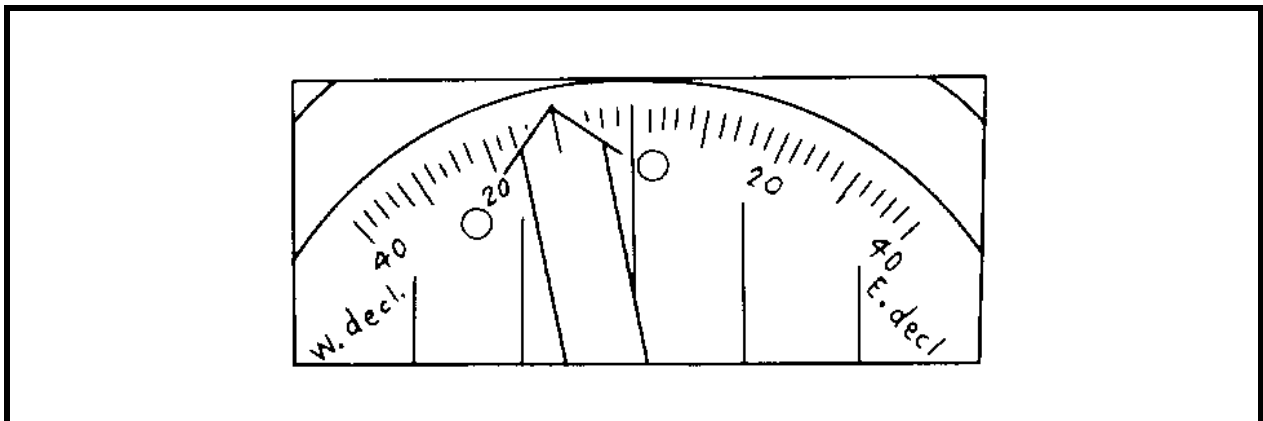
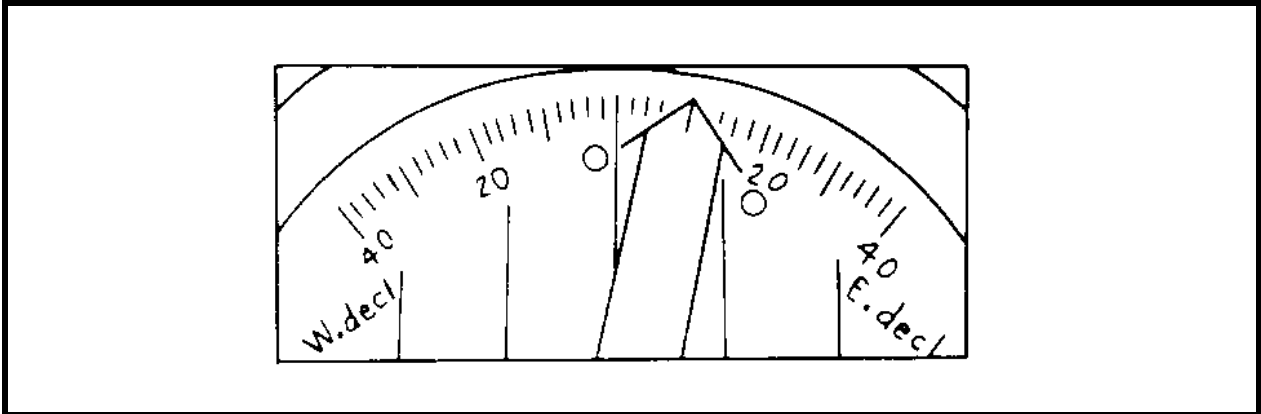

Figure 8-6 Declination West
Figure 8-7 Declination East
- c. If the declination in your area is 10° west, turn the adjusting screw clockwise so the orienting arrow points to 10° on the west side of the scale as shown in Figure 8-6. If the declination in your area is 10° east, turn the adjusting screw anti-clockwise so the orienting arrow points to 10° on the east side of the scale as shown in Figure 8-7.